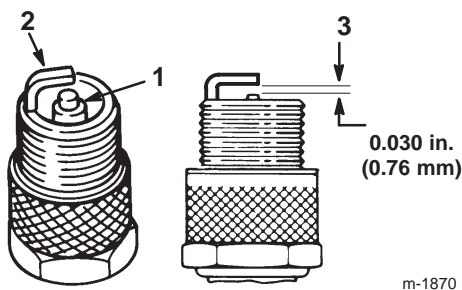

Figure 26
- Look at the center of the spark plug (Fig. 26). If you see light brown or gray on the insulator, the engine is operating properly. A black coating on the insulator usually means the air cleaner is dirty.
- Check the gap between the center and side electrodes (Fig. 26). Bend the side electrode (Fig. 26) if the gap is not correct.